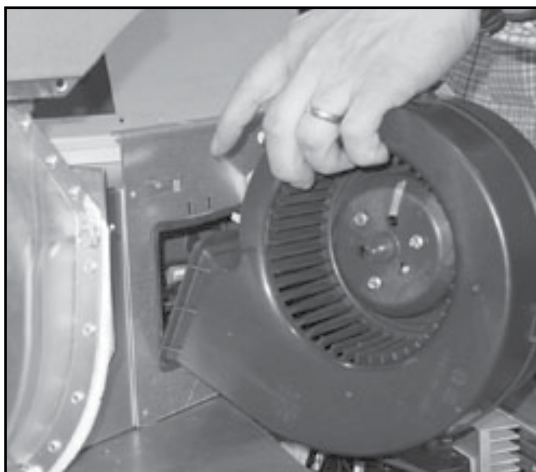

Figure 50.2
7. When the blower is properly positioned the latch will engage the notch to hold the blower in place. **Figure 50.2.**